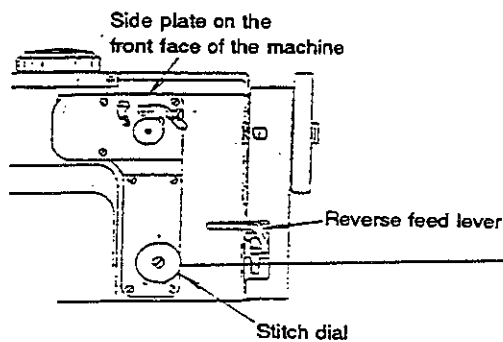

Fig. 4
- Align marking Ⓖ of the side plate on the front face of the machine with "0" on the scale of the stitch dial. (Fig. 4)